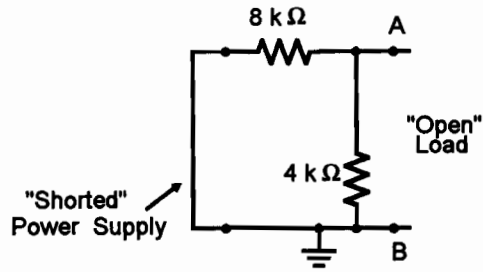

Figure 2.3
6. To verify  $R_{TH}$ , construct the circuit of Figure 2.3 and measure the resistance at points A and B.